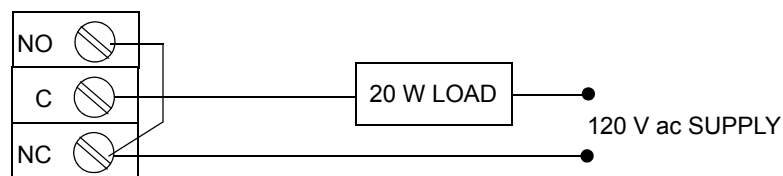

Figure 32. Alarm Contact Reconditioning Circuit
2. Connect a load of 20 W or more as shown in Figure 32 so that both NO and NC contacts are exercised.